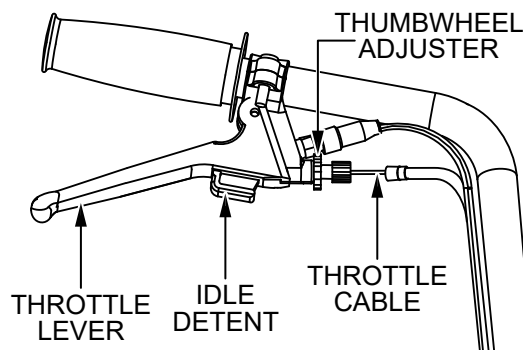

Figure 9. Throttle Cable Adjustment
7. Adjust the throttle cable at the throttle lever on the handlebar (Figure 9).